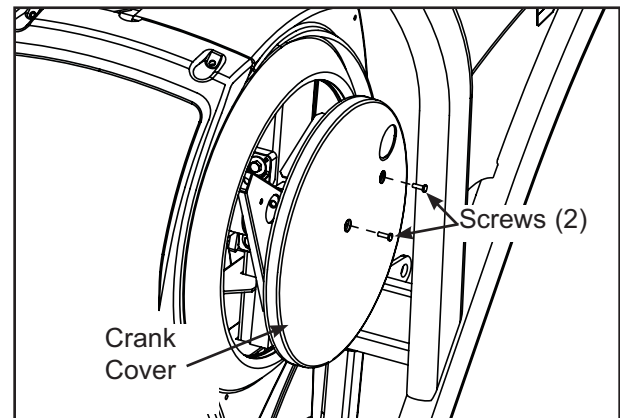

Figure 3
- A. Place new crank cover (B) in position.
- B. Using a Phillips screwdriver, attach the two screws (A) securing the crank cover in place. See Figure 3.